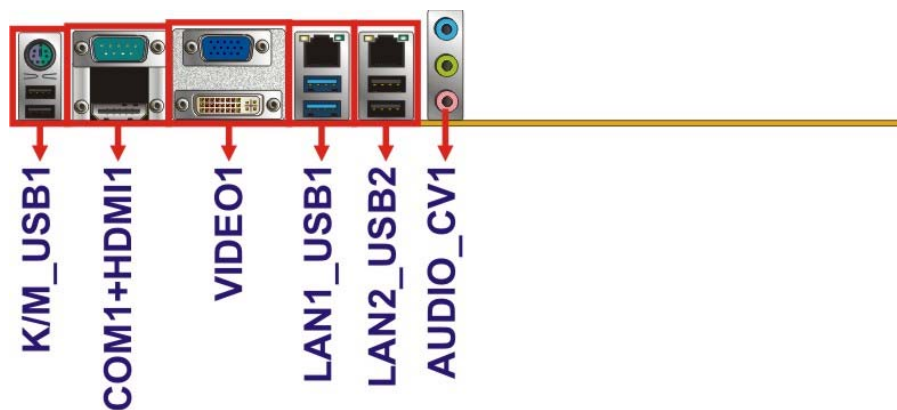

Figure 3-30: External Peripheral Interface Connector
CN Location:	See Figure 3-30
- CN Location:** See Figure 3-30
**CN Location:** See **Figure 3-30**